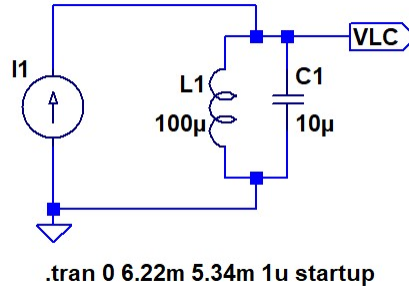

Figure 2 - LTSpice Parallel LC Circuit
Build the circuit shown in Figure 2. Note that the series resistance of the inductor will be specified as part of the inductor's parameters.
- A. Capture the circuit in Figure 2 in LTSpice. To place a current source in the circuit search for “current” in the “Add Parts” window.